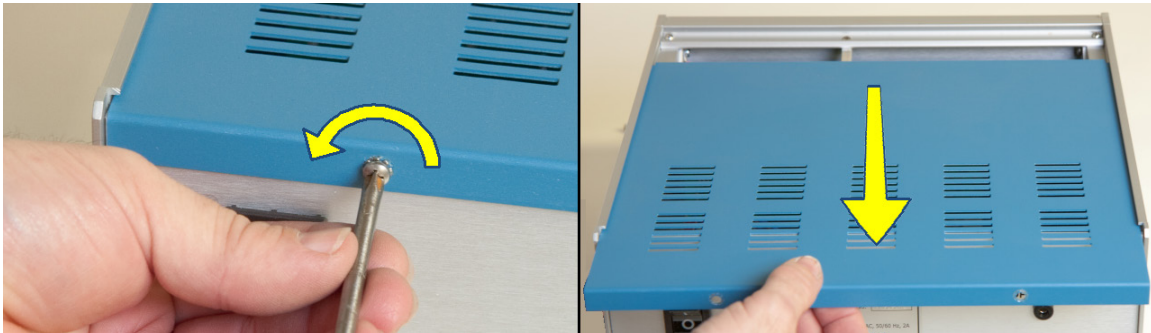

Figure 2-1. Removal of the MSR Rotator Control Unit Cover
2. With the power cord disconnected, remove the cover from the control unit (see Figure 2-1).